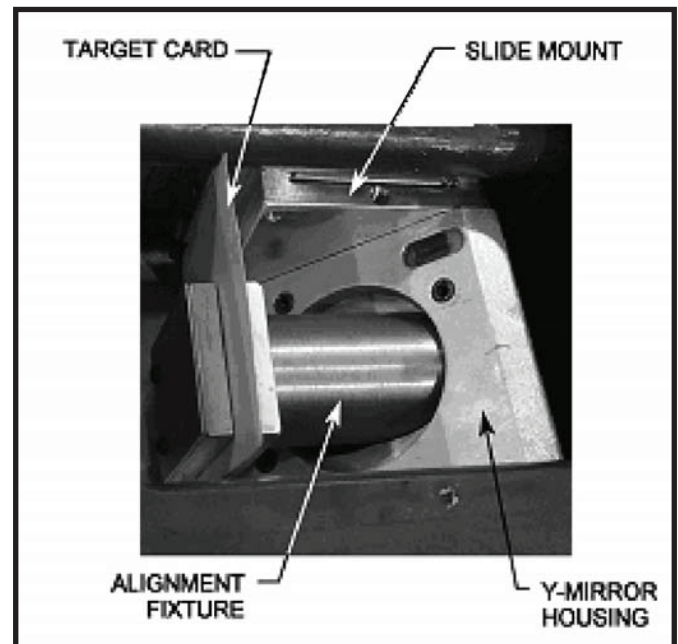

FIGURE 9-22 Y-Axis mirror alignment top view
4. Insert the alignment fixture and target card in the mirror housing. See Figure 9-22.